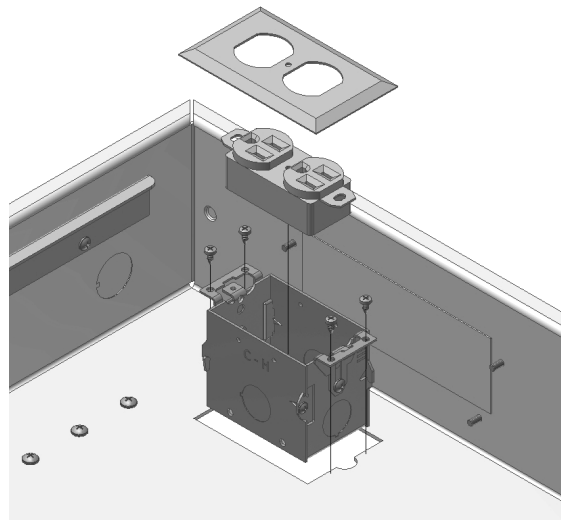

Figure 2
Step 2 – Attach the electrical junction box to one of the knockouts located on the bottom of the enclosure (Figure 2) with four self drilling screws.
**⚠️\*\*IMPORTANT\*\*** - The electrical junction box must be attached to the back box with all four (4) screws for it to be grounded properly. A power supply outlet MAX 125VAC, 20A should be used.